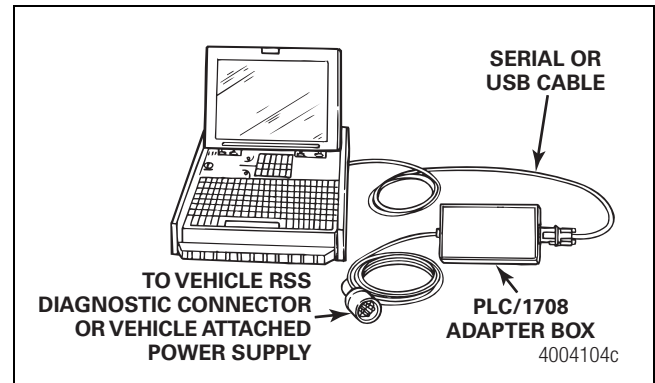

Figure 45
- Attach one end of the vehicle diagnostic connector to the adapter box. Attach the other end to the diagnostic connector on the trailer. Figure 45.